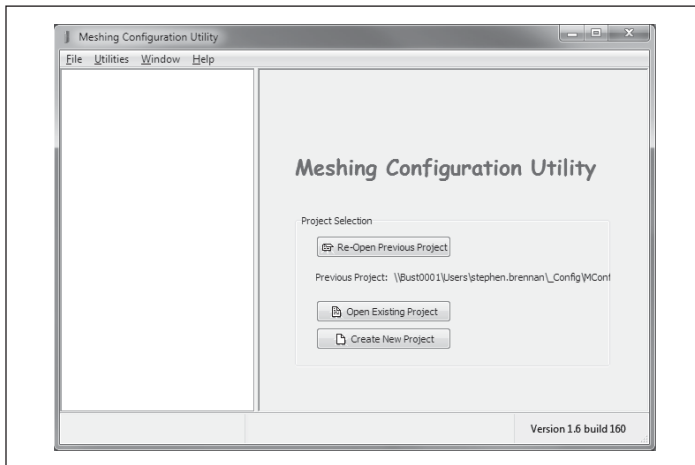

**Figure 25. Installation wizard**
**Figure 25** shows the Welcome screen for the standard installation. The screen is similar for the parallel installation.